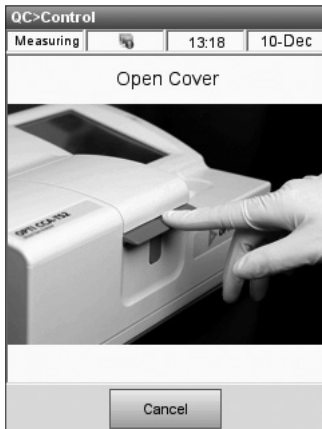

Fig. 4-16 Open Cover
5. Open the sample chamber cover by pressing down on the center of the red latch (Fig. 4-16).